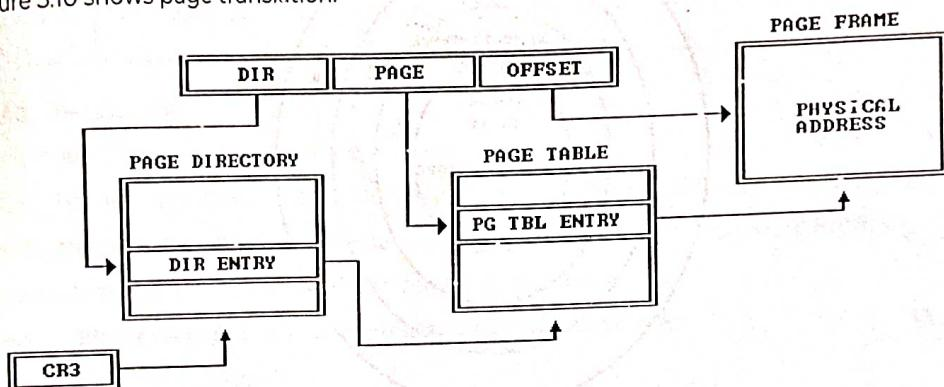

Figure 5.10: Page Translation.
5. Figure 5.10 shows page translation.